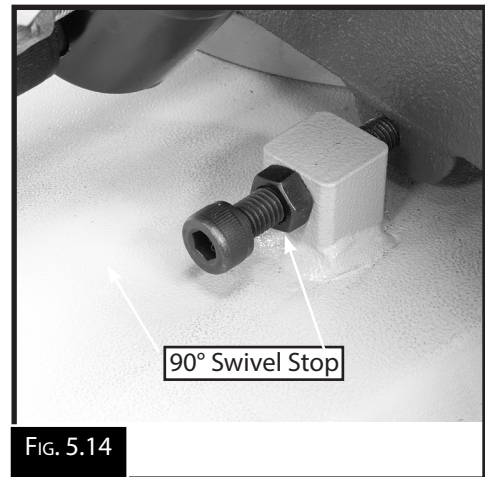

FIG. 5.14
4. Check that the "0" head stop is hard up against the stop. If there is a gap between the pad (Fig. 5.14) and the stop screw, then loosen the lock nut and adjust the stop bolt until it rests against the pad.